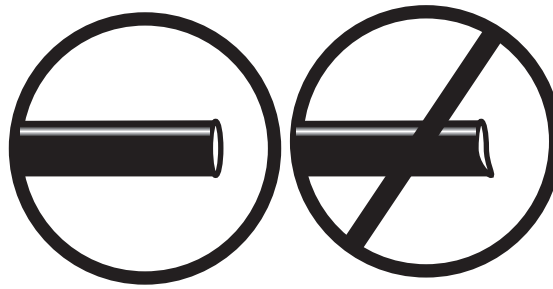

fig. 6
- a. Check the air line connection by deflating the spring and removing the line by pulling the collar against the fitting and pulling firmly on the air line. Trim 1" off the end of the air line. Be sure the cut is clean and square (see fig. 6). Reinsert the air line into the push-to-connect fitting.